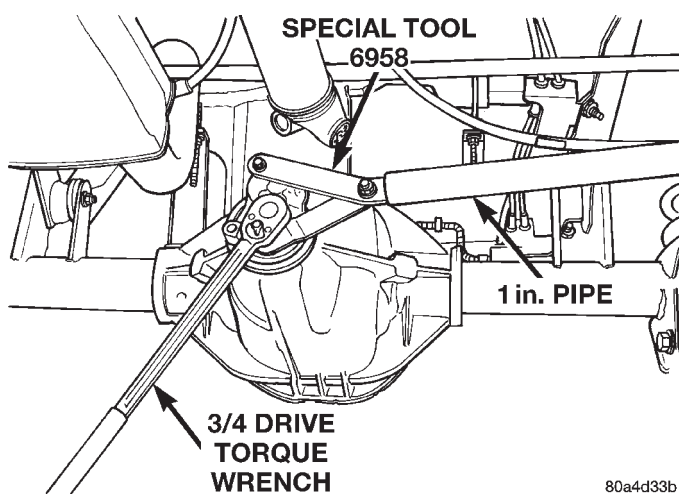

Fig. 52 Tightening Pinion Nut
(14) Using yoke holder 6958, a short length of 1 in. pipe, and a torque wrench set at 474 N·m (350 ft. lbs.), crush collapsible spacer until bearing end play is taken up (Fig. 52).